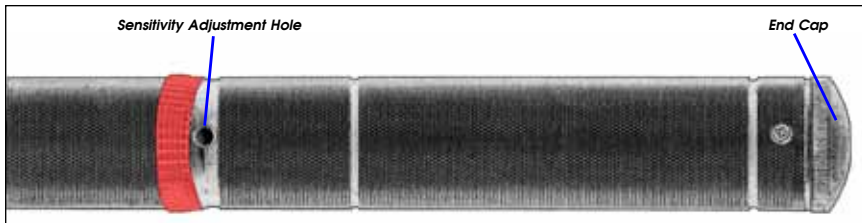

FIGURE 4—Sensitivity Adjustment
1. Locate the red rubber ring around the center of the baton and pull it back until you see the sensitivity adjustment hole on the bottom-side of the unit (Fig. 4).